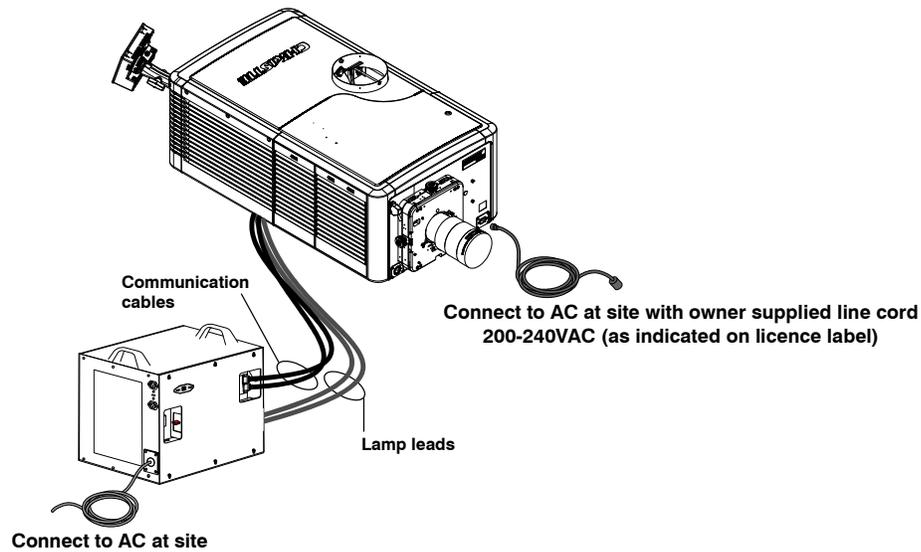

Figure 2-24 Connection to AC
- Connect the AC from the site to the socket located on the front bezel of the cinema projector. (Figure 2-24)